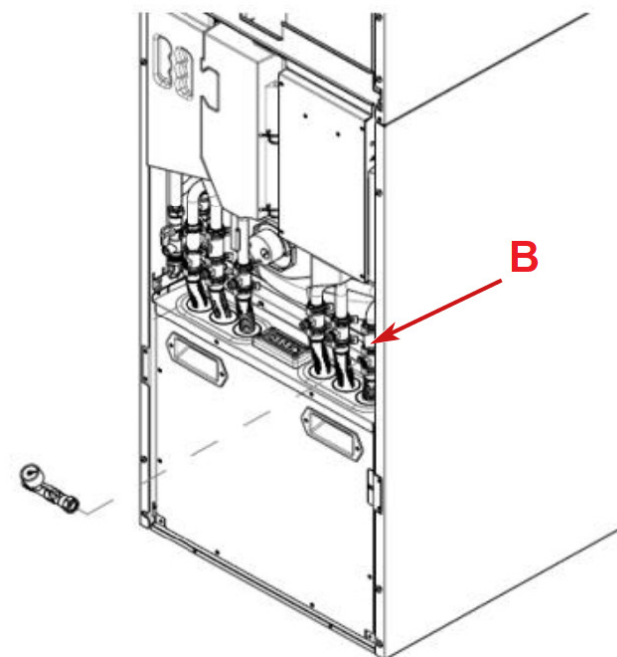

Fig. 112 : Replacing Filling Loop Space Heating
4. Detach the Space Heating Circuit Outlet hose connection marked in Fig. 112 with "B". This is to allow easy access to remove the filling loop.
3. The PGD cable is terminated with an RJ-11 jack which is plugged into the socket as shown in Fig. 112. Access the socket by removing the front cover panel as shown.